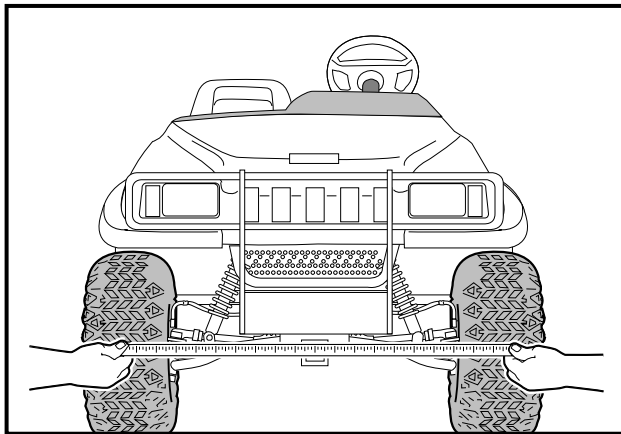

Figure 7-25 Measure Toe-in
4. Measure the distance between the marks on the forward-facing surfaces of the tires (**Figure 7-25, Page 7-14**).